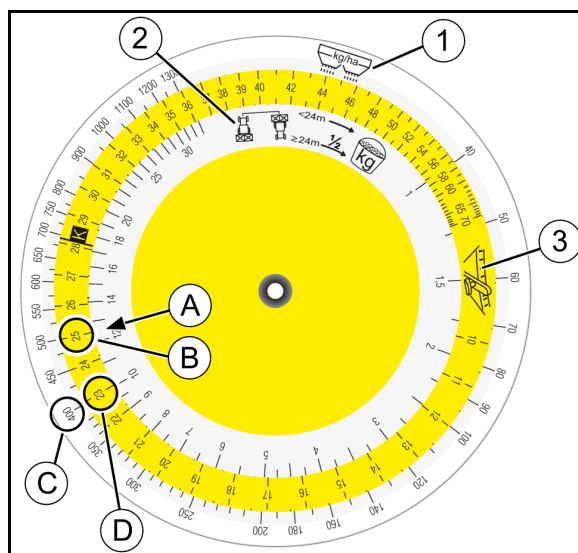

Fig. 55
On the scale (Fig. 55/2) for collected quantity [kg], look for the value (A) and align with the selected slider position (B) of the coloured scale (Fig. 55/3).
3. Look for the desired spread rate (C) and read off the required slider position (D).